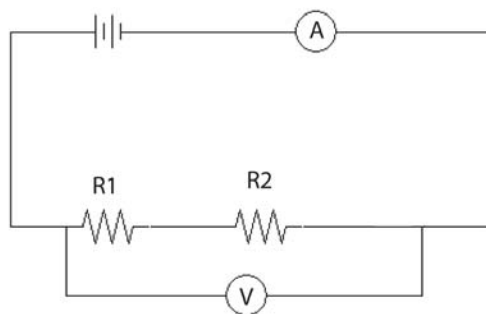

Figure 3.13: Schematic for 2 resistors connected in series.
7. **Construct the series circuit shown in Fig. 3.13.**